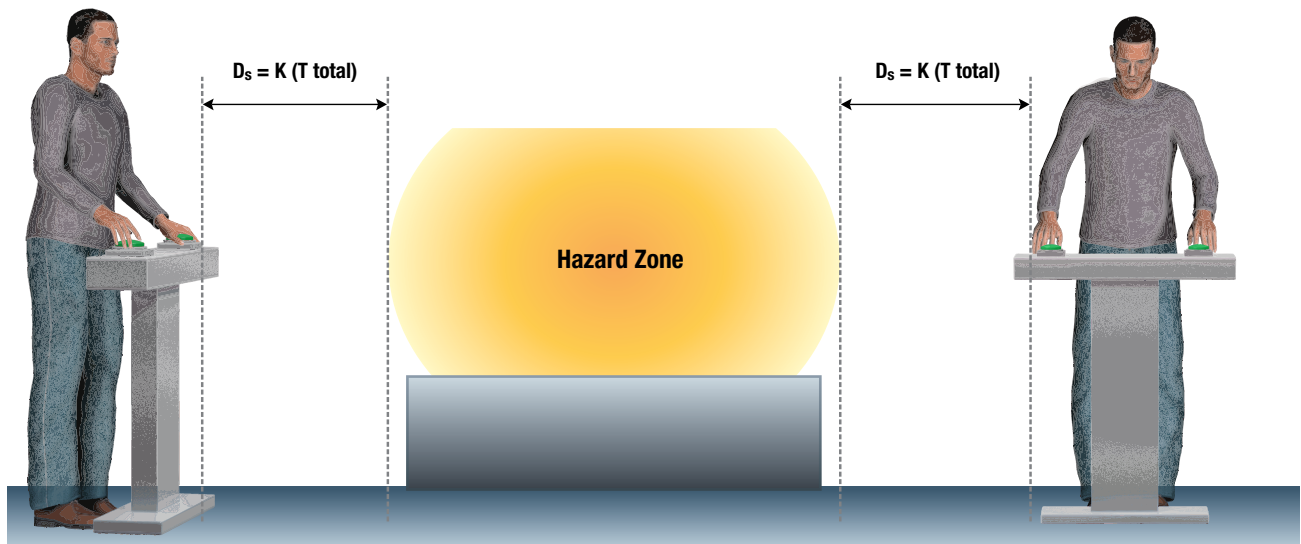

Figure 13: Two-hand control and two-hand trip applications
requires the additional factor (C) to be 250 mm (9.8 in.). The safe mounting distance for these control devices is measured by the closest hand control to the hazard as shown in Figure 13. It is extremely important that the two-hand control and two-hand trip stations are designed, constructed, and arranged such that the actuating devices can only be initiated by the hands of the operator.